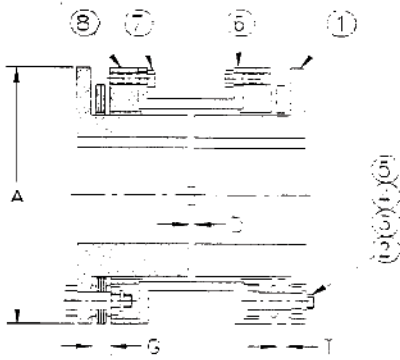

FIGURE 1
- 1) A complete coupling should consist of the components shown in the Bill of Materials in figure 1. Examine the coupling to assure that no components are missing or damaged.
4) Check the flex disc gap, dimension G in figure 1 as listed on line 3 of the INSTALLATION DATA TABLE.